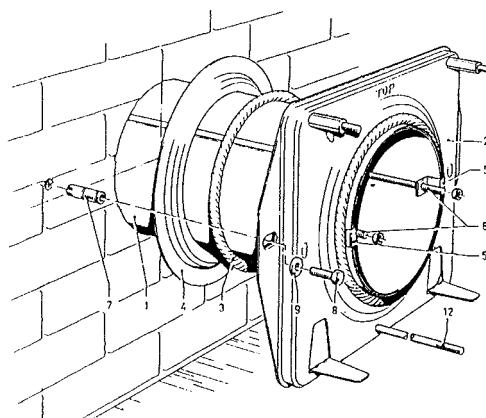

fig. 3
Installation of the standard exterior wall duct (fig. 3)
Installation of the wall duct with telescopic inlet pipe (fig. 3)
Fastening the mounting sheet (fig. 3)
- In addition, replace the bolt (8) (fig 3) by e.g. a wood screwed bolt.
- On the room side, put the heat shield (14) between the mounting sheet (2) and the wall.
- On the outside of the wall, using 4 screws (16), attach siluminplate (15).